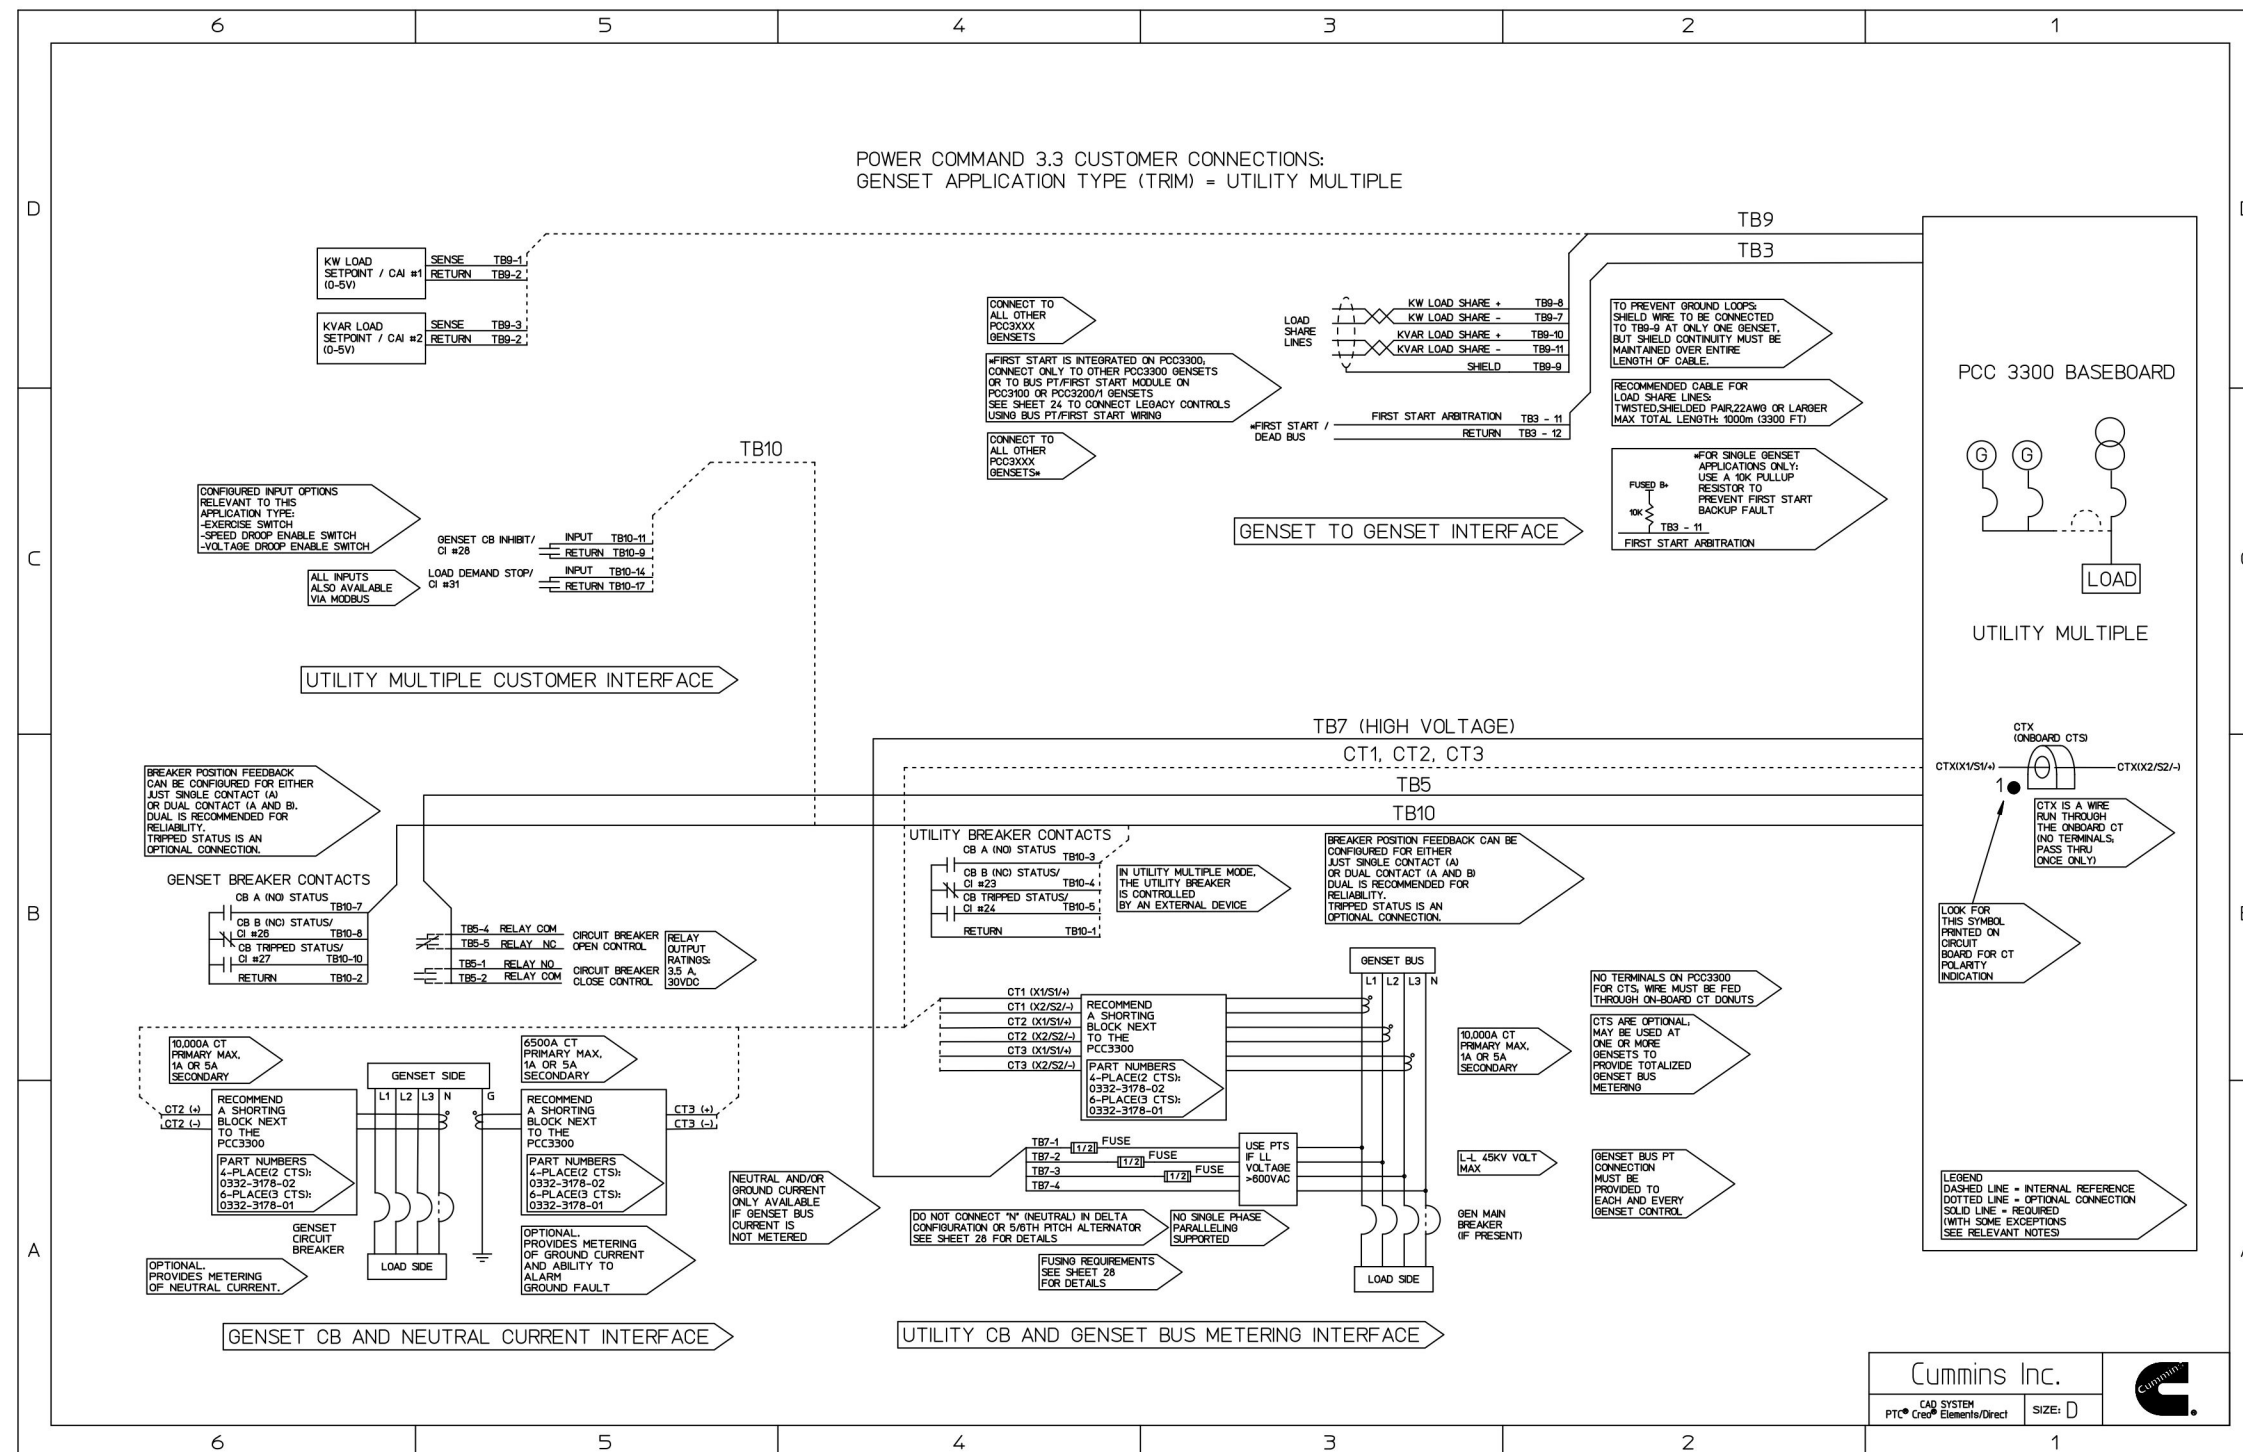

FIGURE 109. POWERCOMMAND 3.3 PARALLELING CONNECTIONS - UTILITY MULTIPLE
- Figure 109. PowerCommand 3.3 Paralleling Connections - Utility Multiple 413